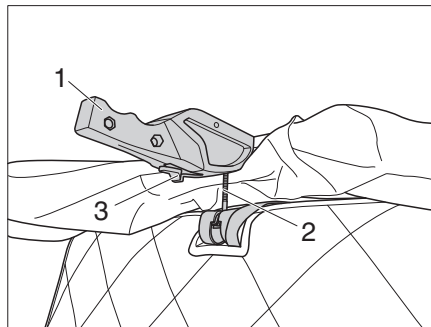

Fig. 26 Tensioning the locking mechanism
- ▷ Before driving off, check that the bolts (Fig. 26,2) of the locks on the left and right are correctly tensioned. If necessary, adjust the lock according to the instructions from the manufacturer.
- Push the pin (Fig. 26,2) into the holder.
- Push up the locks (Fig. 26,1) on the left and right.
- Check that there is no play in the bolt (Fig. 26,2) and that the locking lever (Fig. 26,3) is engaged.